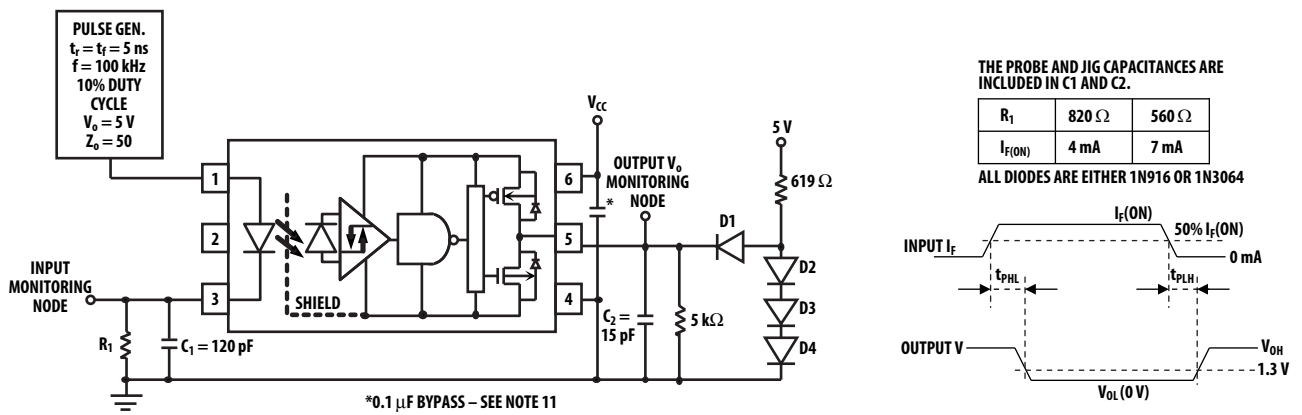

Figure 5. Circuit for t_{PLH} , t_{PHL} , t_r , t_f
- The t_{PLH} propagation delay is measured from the 50% point on the trailing edge of the input pulse to the 1.3V point on the leading edge of the output pulse. The t_{PHL} propagation delay is measured from the 50% point on the leading edge of the input pulse to the 1.3V point on the trailing edge of the output pulse. Peaking capacitor, $C_1 = 120\text{pF}$ must be connected as shown in Figure 5.